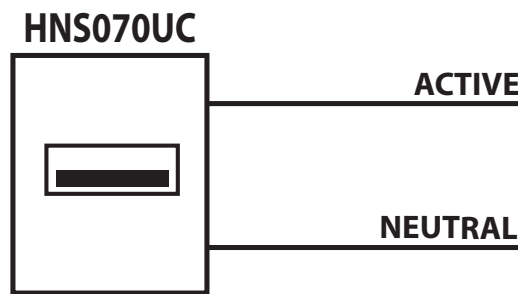

Figure 1: HNS070UC Wiring Diagram
- Install the HNS070UC as per the wiring diagram in Figure 1.